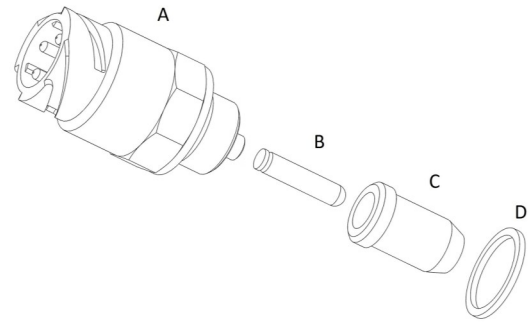

Figure 4
1.4 Remove Front Axle Engage (FAE) indicator switch, extension pin, snap ring, and shoulder. (See figure 4)